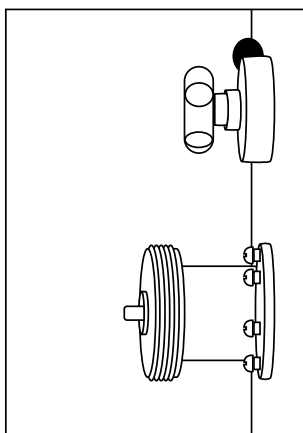

Fig 2
- The auger is properly installed and that only the thinner pin (not the thicker part) sticks out from the extrusion tube (fig.2)